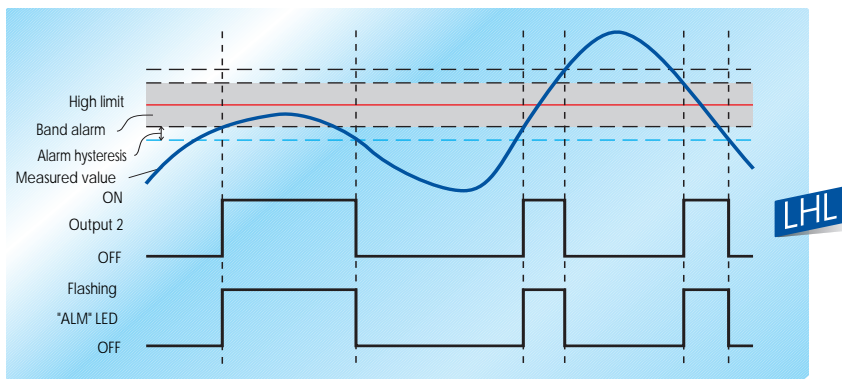

Figure 6
**Note:** 1) the band and deviation alarms are referred to the limiter threshold (see figures 6 and 7) so that if the threshold has been modified, the alarm will also change.